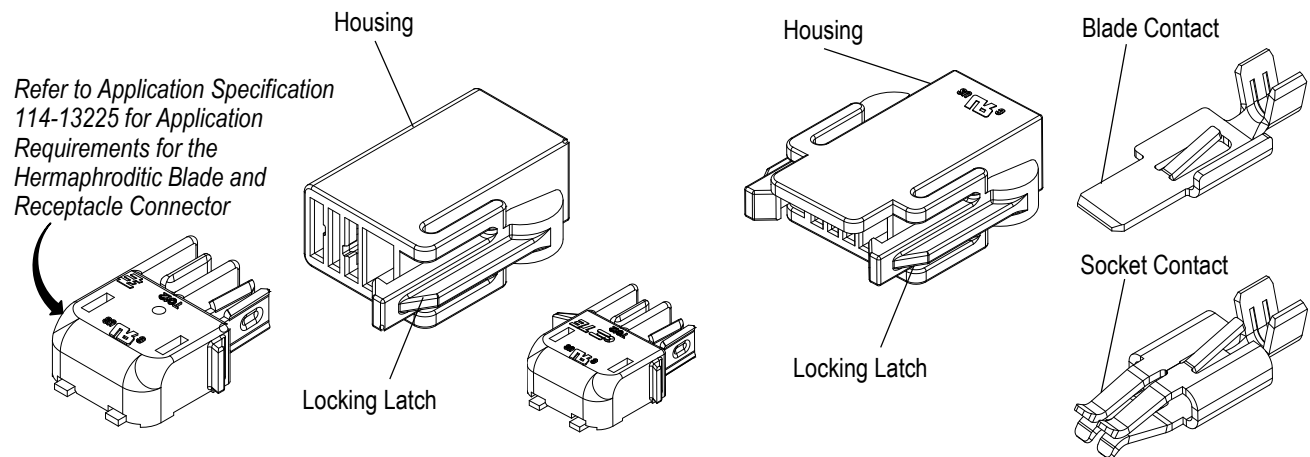

Figure 1
When corresponding with TE Connectivity Personnel, use the terminology provided on this specification to help facilitate your inquiry for information. Basic terms and features of components are provided in Figure 1.
- Added new artwork to Figure 1 and new Paragraph 3.1 and renumbered